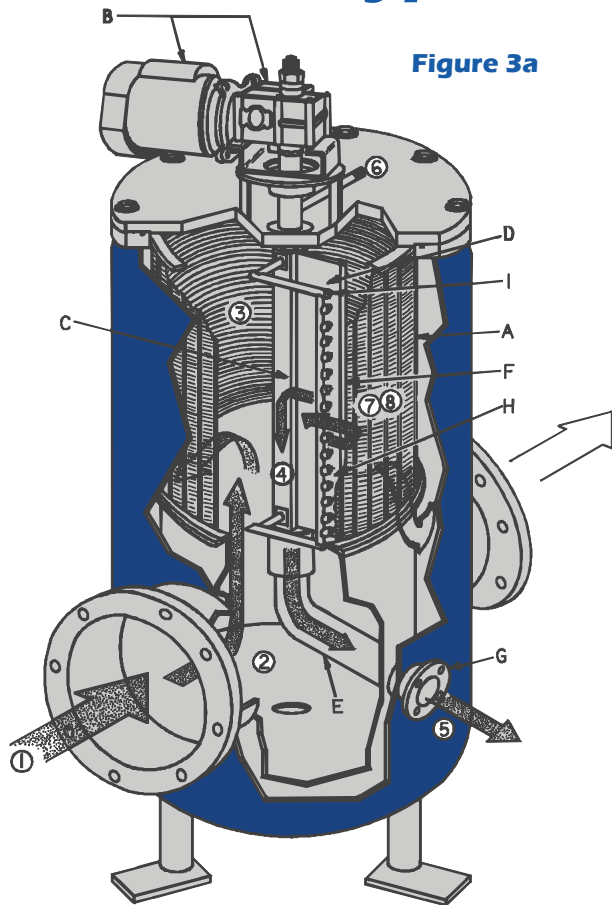
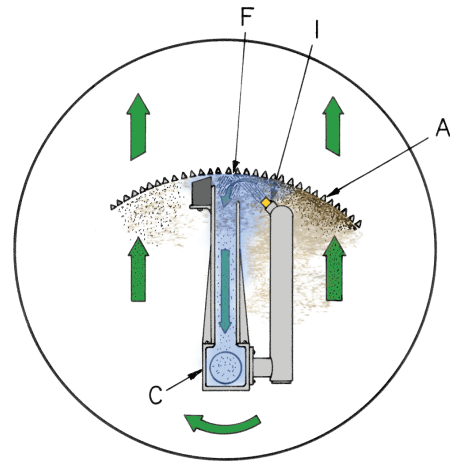
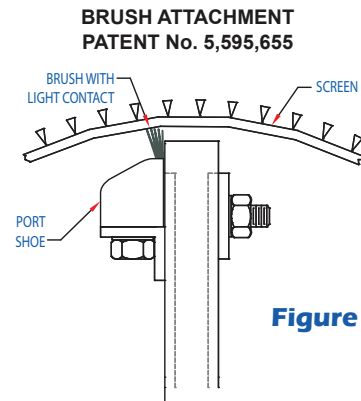

Figure 3a
Figure 3b
Figure 3c
1. Debris laden fluid enters through inlet to inner chamber (Figure 3a).
2. Dirty fluid flows upward to the strainer element (A).
3. Debris is retained on the flat face of the strainer element, while strained fluid continues to outer chamber and exits through strainer outlet (See Figure 3a).
4. During backwash or cleaning cycle, the motor/gear reducer (B) is engaged and drives the hollow drive shaft (C) and hollow port (D) around the inner circumference of the strainer element.
5. The backwash assembly (C), (D), and (E) are opened to atmospheric pressure by opening the backwash control valve (Not shown).
6. The external source of fluid is introduced by opening the control valve (Not shown) connecting the spray nozzles (J) at the leading edge (F) of the backwash assembly.
7. A "Jet" spray action occurs at the straining element inside surface (See Figure 3b) in addition to the flow reversal at the port/straining element inter-face (H).
8. Debris is effectively removed from the full length of the straining element by a vigorous Hyper-Jet® fluid flow into the hollow port; down the hollow drive shaft and out the backwash outlet (G).
9. A brush molded to the port shoe facilitates debris removal on the straining element (See Figure 3c). A non-brush port shoe is available as an option.